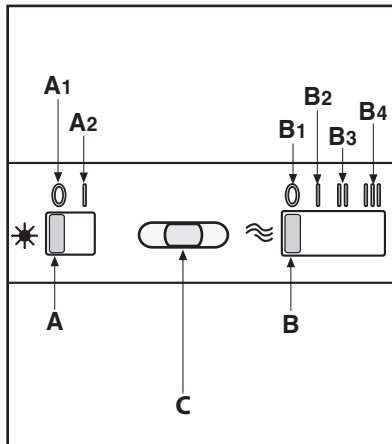

Fig.7
• **Commands (Fig.7) slider** the key symbols are explained below: